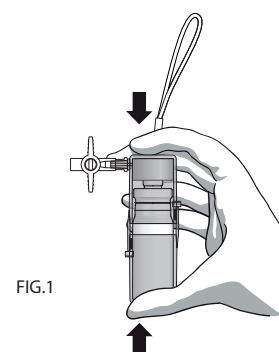

FIG.1
**Press the two half-shells of the canister** (fig. 1) **bringing them together to hook each other**.